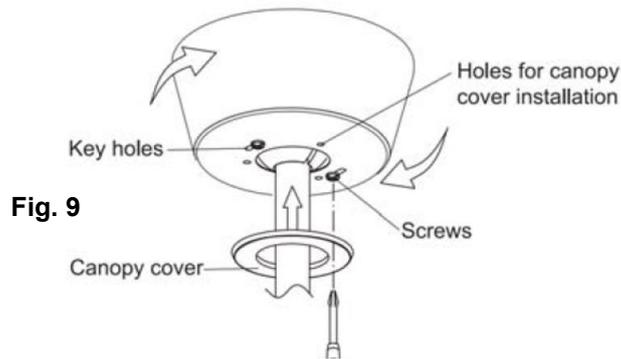

Fig. 9
- Loosen the 2 screws at the bottom of the mounting bracket by half a thread. (Fig. 9)
- Slide the canopy up to the mounting bracket and align the key holes on the canopy with the screws on the mounting bracket. Turn the canopy until it locks into place with the narrow section of the key holes and secure it by tightening the two screws. Avoid damaging the electrical wiring prepared previously. (Fig. 9)
- Attach the canopy cover onto the canopy by pushing the lugs into the holes. (Fig. 9)